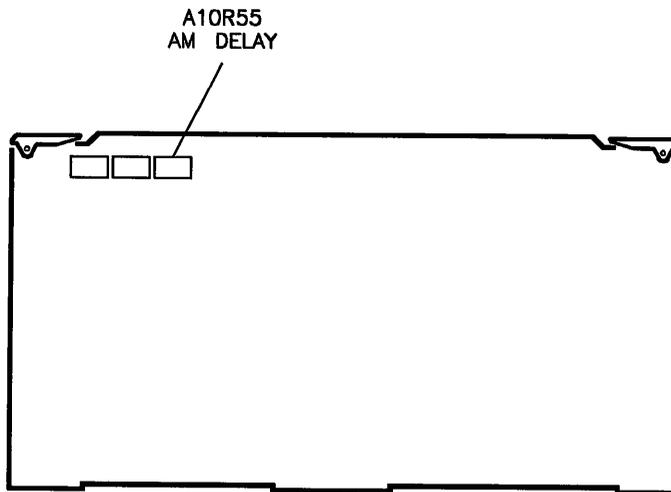

Figure 3-31. AM Delay Adjustment Location
6. Adjust A10R55 (see Figure 3-31) for a minimum AC voltage reading on the DVM.